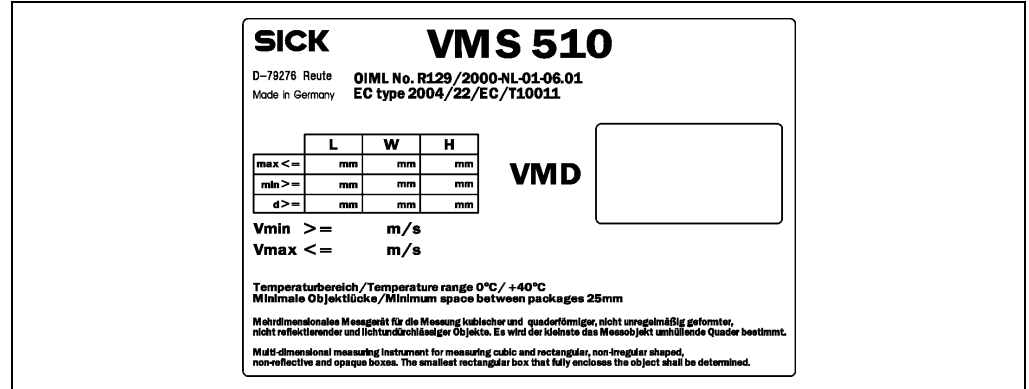

Fig. 10: Certification label for the VMS510 to be fitted
- After a thorough application check, scale intervals for length, width and height must be fixed. These scale intervals must be entered on the certification label included (see Fig. 10) in the “d>=” line in permanent ink. The certification label must be fitted to the system such that it can be seen by the operator and can be allocated to the volume measurement system.